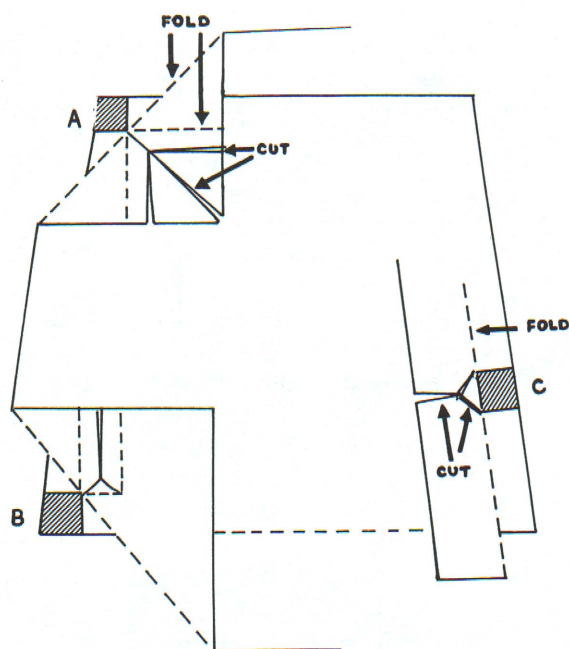

Fig. 21—Fitting material at posts.
depress the springs. If necessary, cut and fit material around the posts (Fig. 21).
At this point a professional worker would stretch the outer covering over the padding. It is easier, however, for the beginner to shape each part if he first puts on a muslin undercover. Cut muslin large enough to turn under 1 inch and baste tack to the frame all around (drive tacks in only part way), so you can later make needed adjustments. Fasten muslin first in the center back, then center front, then center of each side. Work toward the corners. Keep the threads of the muslin straight each way and pull evenly. Space tacks about 1 inch apart. Miter corners to fit smoothly around corner posts and arms (Fig. 21). Cut out excess material and fit smoothly around front corners of seat.
1. **Make a Pattern** as a guide for cutting foam. Fit paper on area to be covered. Mark exact size, fitting it carefully around arms and posts (Fig. 21). Next draw an oversizing allowance on all sides of pattern. This extra size is needed to make the covering material fit snugly and stay in place. Amounts to add to all sides of the pattern are: (a) for slab foam on small pieces, $\frac{1}{4}$ inch all around; (b) for cored foam on chairs, and love seats, $\frac{1}{2}$ inch all around; (c) for larger two-cushioned davenports and built-ins, $\frac{3}{4}$ inch on all sides; (d) for full length davenports $2\frac{1}{2}$ inches on the length.